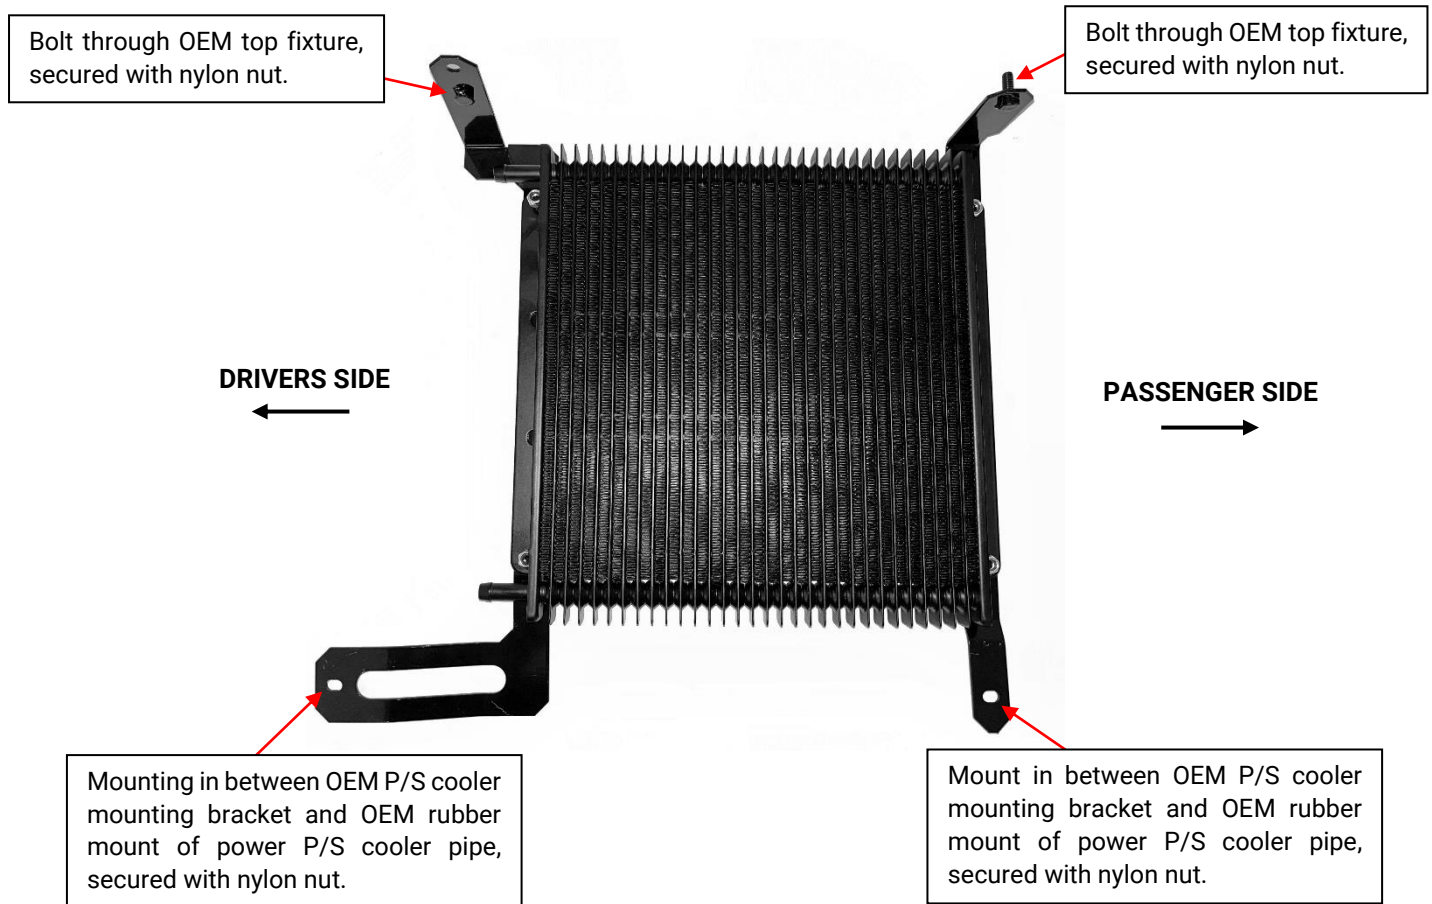

Figure 5: Oil Cooler Mounting Points
- Mount the supplied RHS and LHS brackets to the cooler in the orientation shown in figure 5 below, with the barbs facing towards the drivers side.